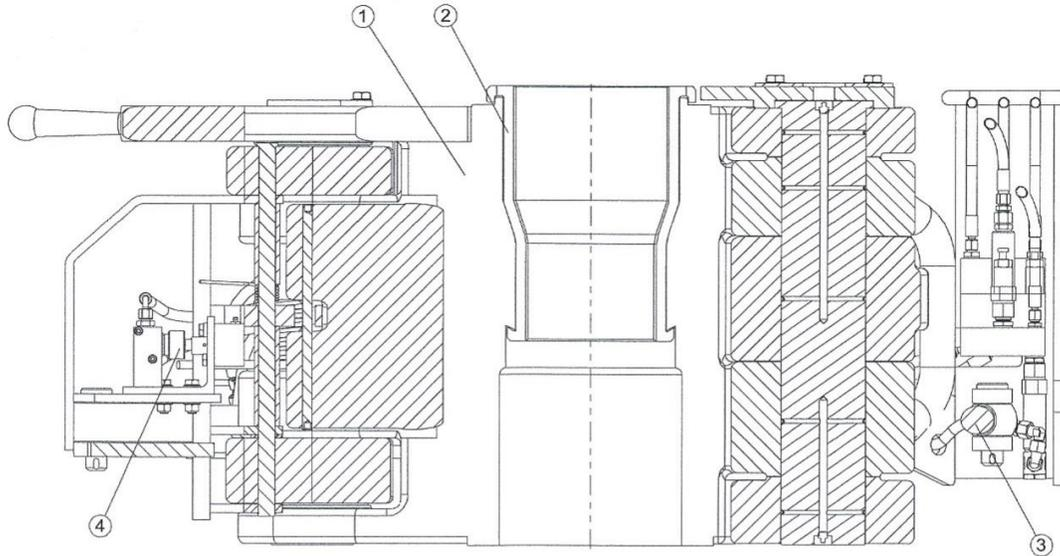

Fig. 4: Side view on elevator, half-cut
4. Closing signal-unit (also see Fig. 4)